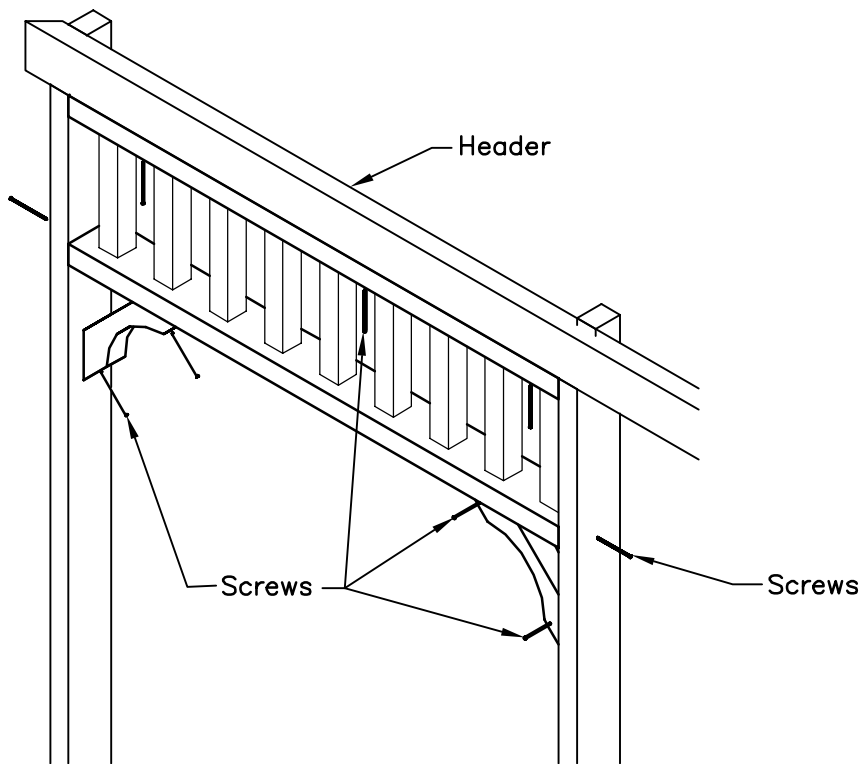

FIGURE S16
- Each top baluster skirting section will fit between the posts at the top of the wall section with the 1x2 fillet fitting flush under the header. Secure to the header with 3–2" inch screws. One each approximate 6 inches from each end. Secure the 2x2 fillet to the post by putting the screw through the post into the 2x2. Use 2–3 inch screws one for each end and each side. See Figure S16.
- Each corner bracket has been angle cut to fit between the top baluster skirting and the post. Mount the corner brackets so that they are flush with the outside of the wall section and the top of baluster skirting. Secure the corner brackets with 4–3 inch screws. See Figure S16.